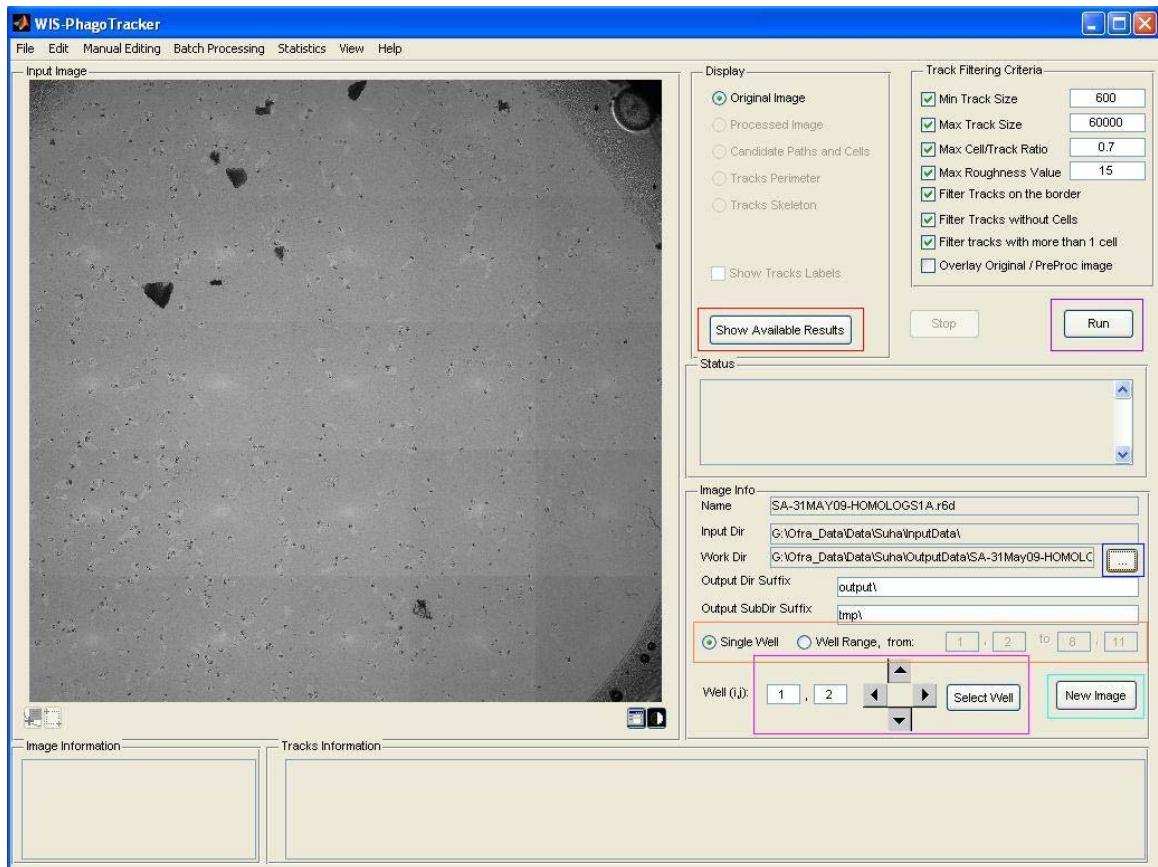

Figure 1: WIS-PhagoTracker Main Window
2. To **load a plate**, click the *New Image* button and select the image for analysis in the dialog opened. The Image will be shown in the *Input Image* panel. Its file name and path will appear In the *Image Info* panel (see Figure 1). You can load whole plates (.r6d) or single image files in TIF or JPEG format.
3. **Set Work Directory.** The default location for single files is the location of the input file. For whole plates, where huge files are used, the default is to use another location. For example you can store your plates in d:\data\inputData and set work directory to d:\data\outputData\<Plate\_Name>. Use the "..." button next to the *WorkDir* field to select a work directory. Shown in blue in Figure 1.